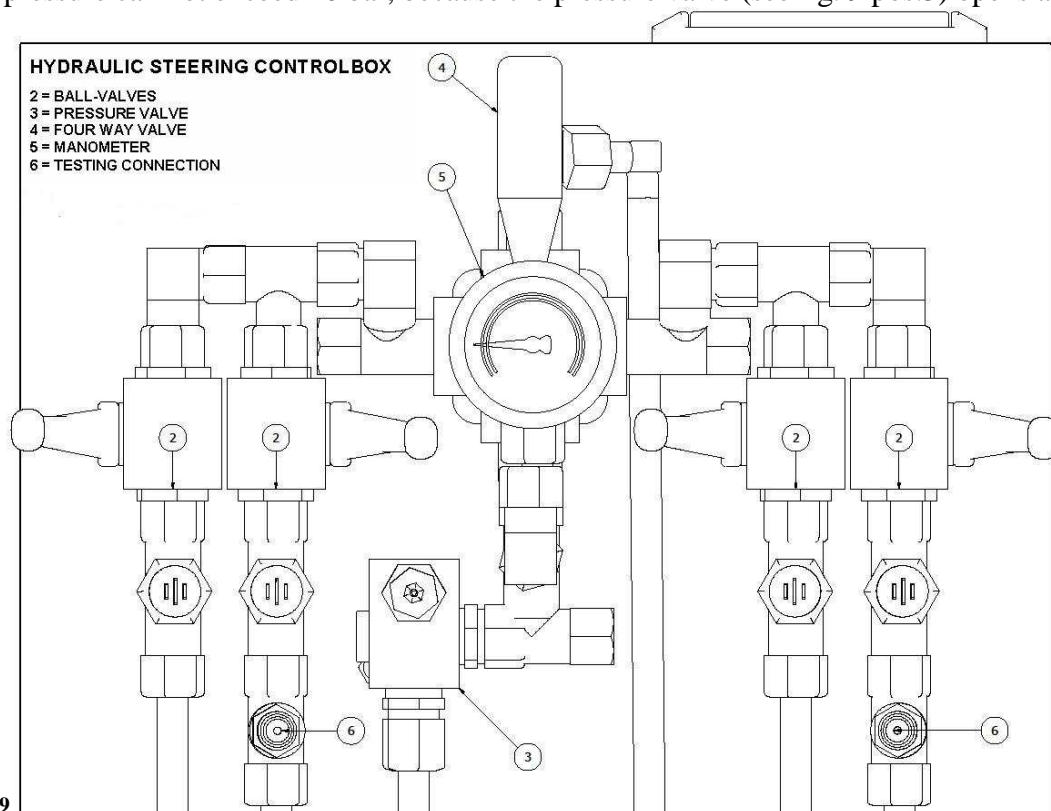

Fig. 9
The ball valves, which are located in the control box (see fig. 9 pos.2) must be opened. Proceed by operating the handpump until the pressure gauge reads 40 bar. While pressurizing the system the pressure can not exceed 40 bar, because the pressure valve (see fig. 9 pos.3) opens at 40 bar.
Open all ball valves (see fig. 9 pos. 2).